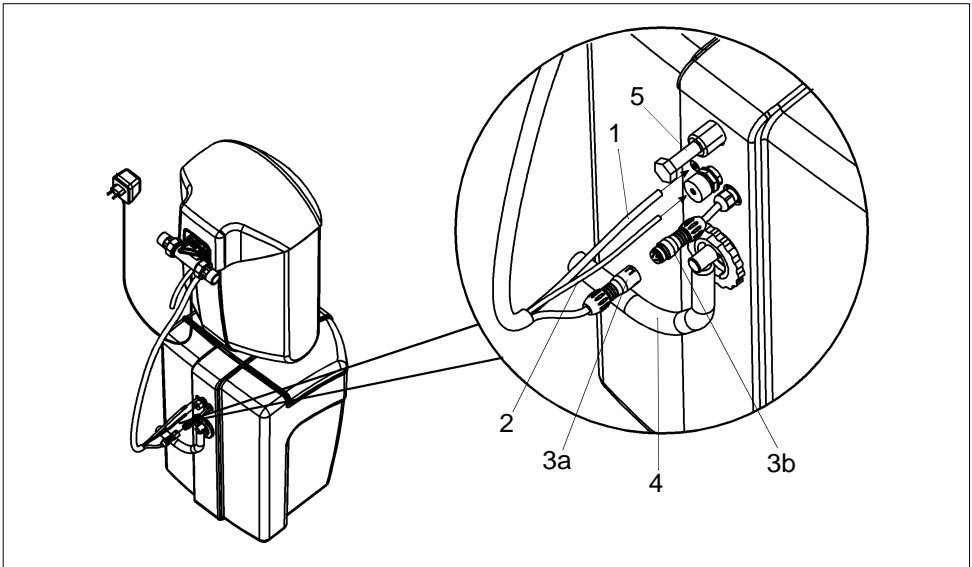

Fig. 9: Salt container assembly
**The salt container is assembled as follows (see fig. 9):**